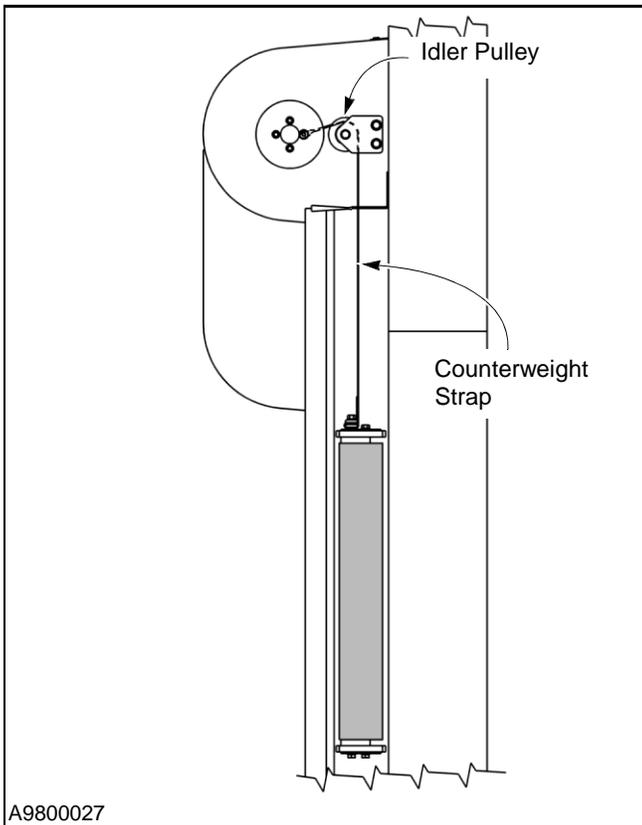

Figure 21
- Route each counterweight strap over its associated pulley as shown in Figure 21.